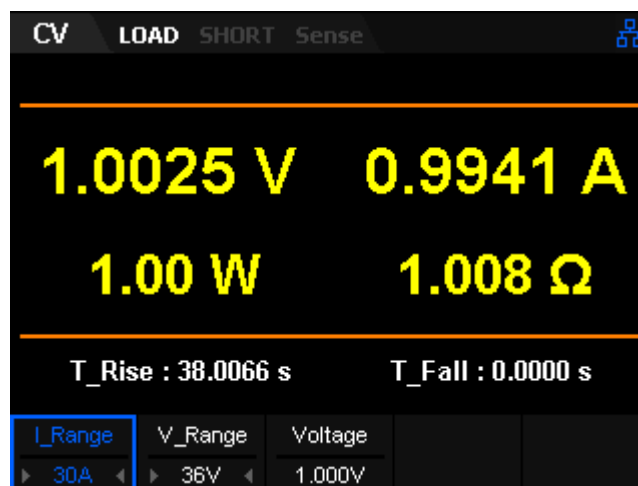

Figure 2-6 CV Mode Main Interface
2. Press CV to enter the main interface of CV mode, as shown in Figure 2-6.